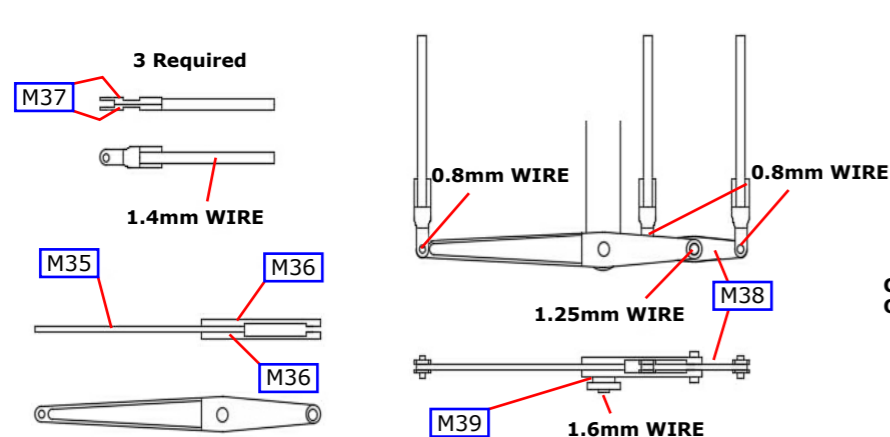

Fig 17. 2:1 Lever
**2:1 Lever.** Assemble the 2:1 lever (M35 & 36) and the front valve rod flanges (M37) as shown in Fig 17. Pin the valve rods, 2:1 lever and 1:1 lever (M38) together with 0.8 mm wire. Fix the 1:1 lever into the 2:1 lever with a 1.25mm pin, ensure the 1:1 lever is free to move.